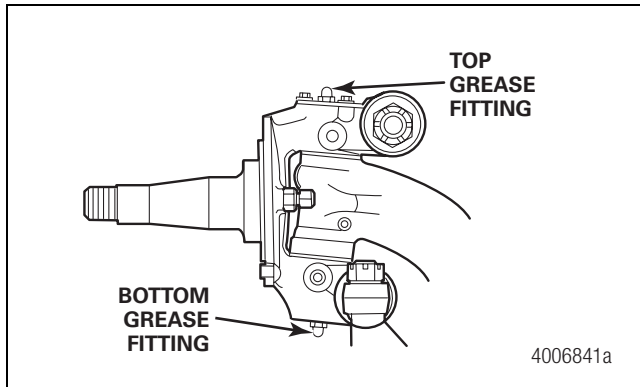

Figure 5.16
4. Lubricate the king pins through the top and bottom grease fittings. Figure 5.16.